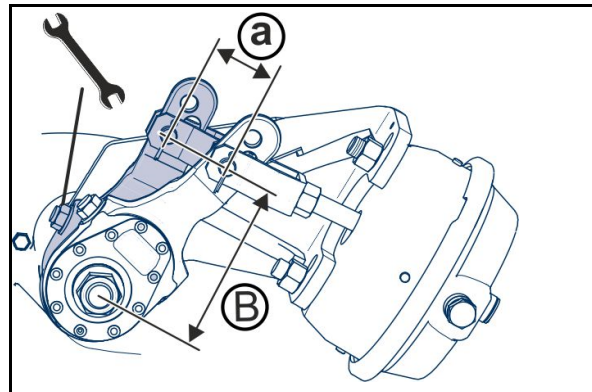

Fig. 137
1. Unscrew the two cover plates (Fig. 137/1) on the inside of the brake drum.
Dirt entering the drums may be deposited on the brake pads (Fig. 137/2) and thus die appreciably reduce brake performance.